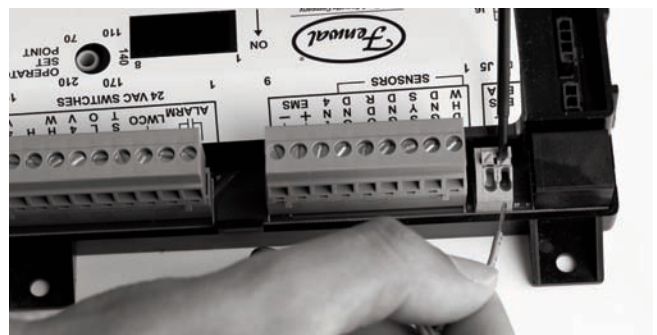

Fig. 25: FT_BUS Wire Connection
3. Connect the FT_BUS wires to the PIM™ by pressing down on the slots with a small screwdriver and then inserting the wires into the holes. See Fig. 25.